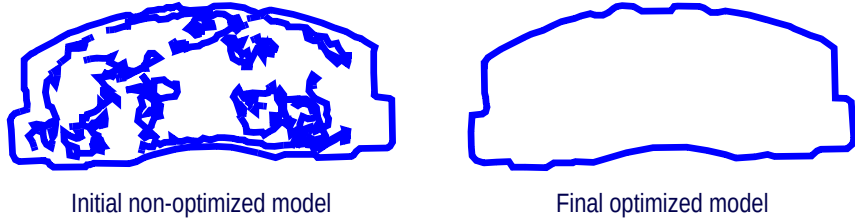

Figure 151 Model Optimization of a Noisy Object
- Cases when a single model contains unwanted features resulting from noise or irregularities in the object and manual editing of the model to remove these extra features is not practical such as illustrated in Figure 151.